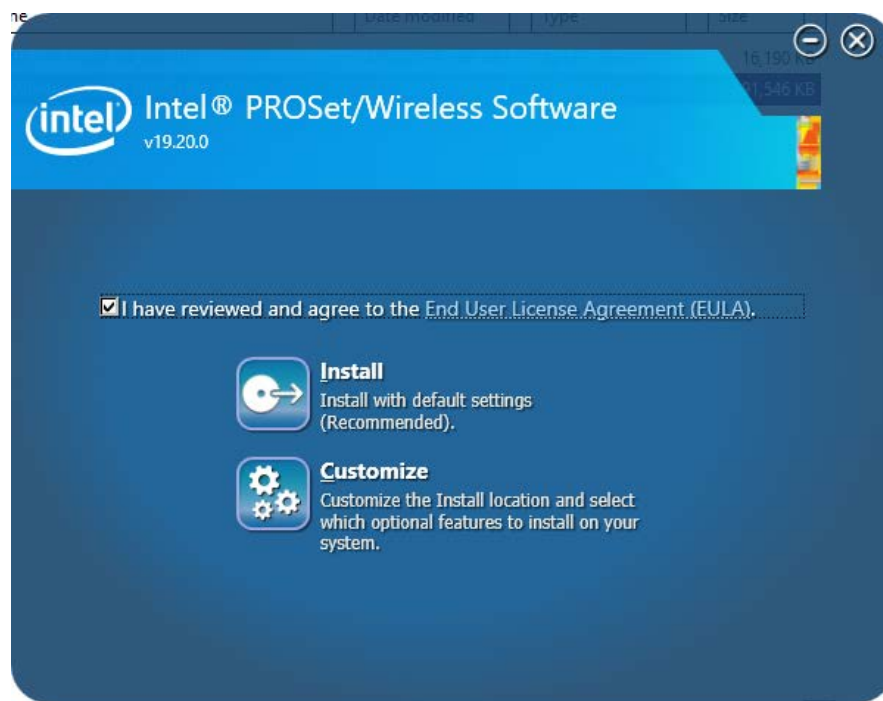

Figure 5-7: Wireless LAN InstallShield Wizard
Step 2: Double click the setup file in the folder, and then select the language for the installation. The InstallShield Wizard screen appears (**Figure 5-7**).